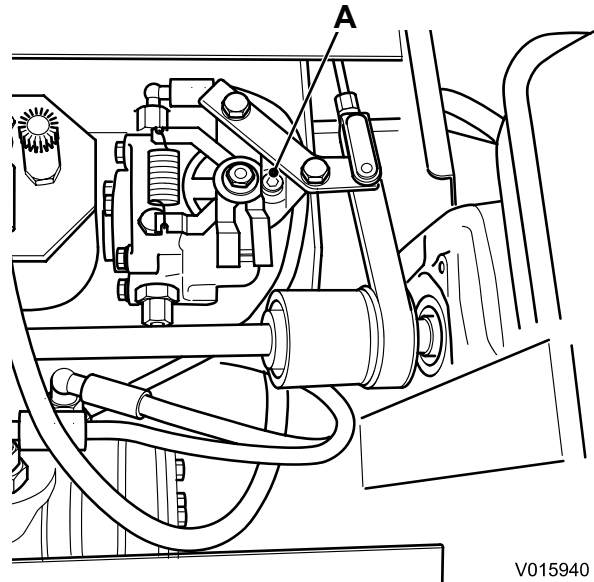

Fig 1.
- 4 Tighten screw **A** ⇒ Fig 1. (□ E-27).